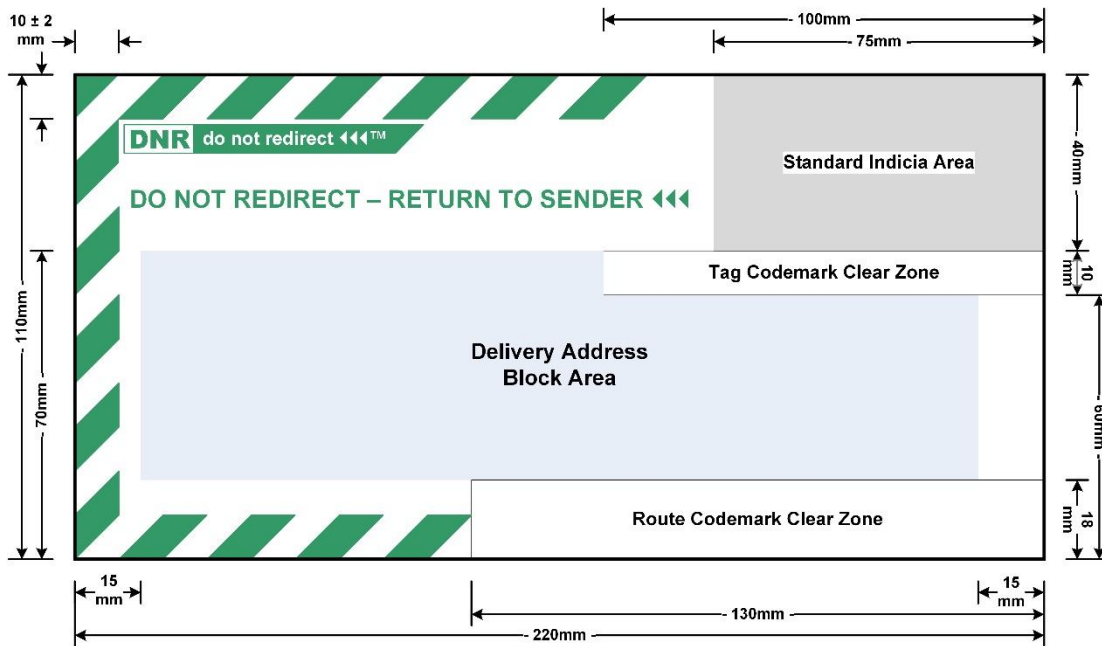
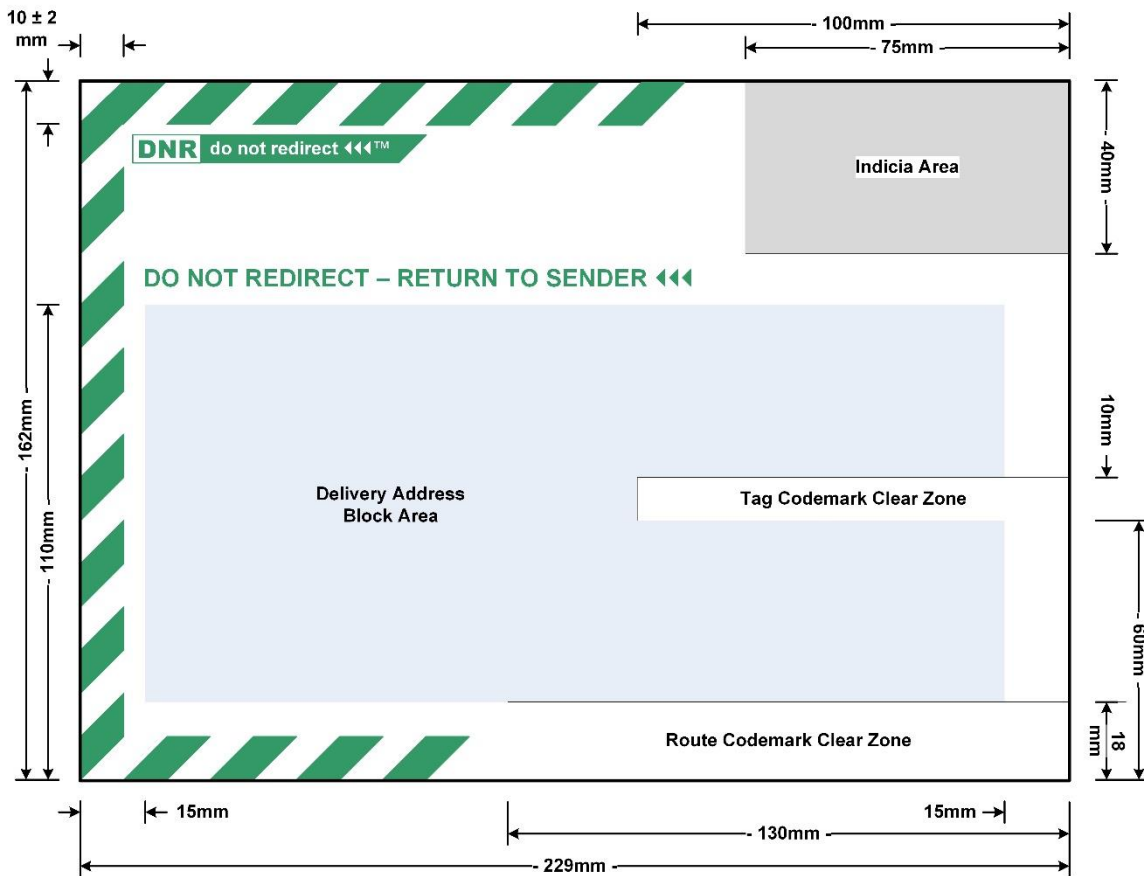
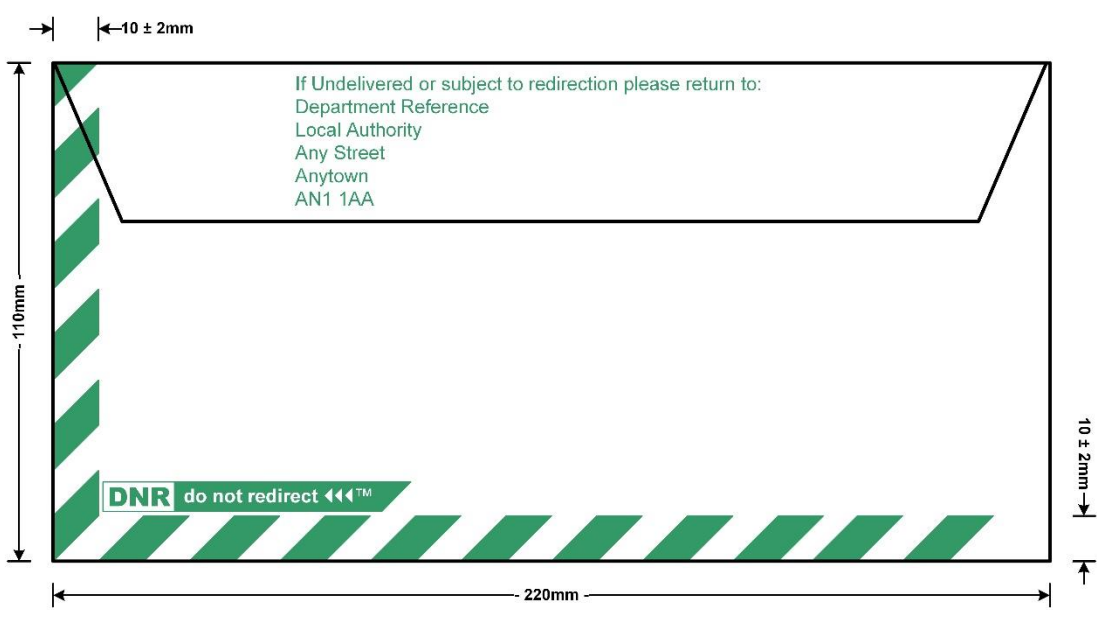
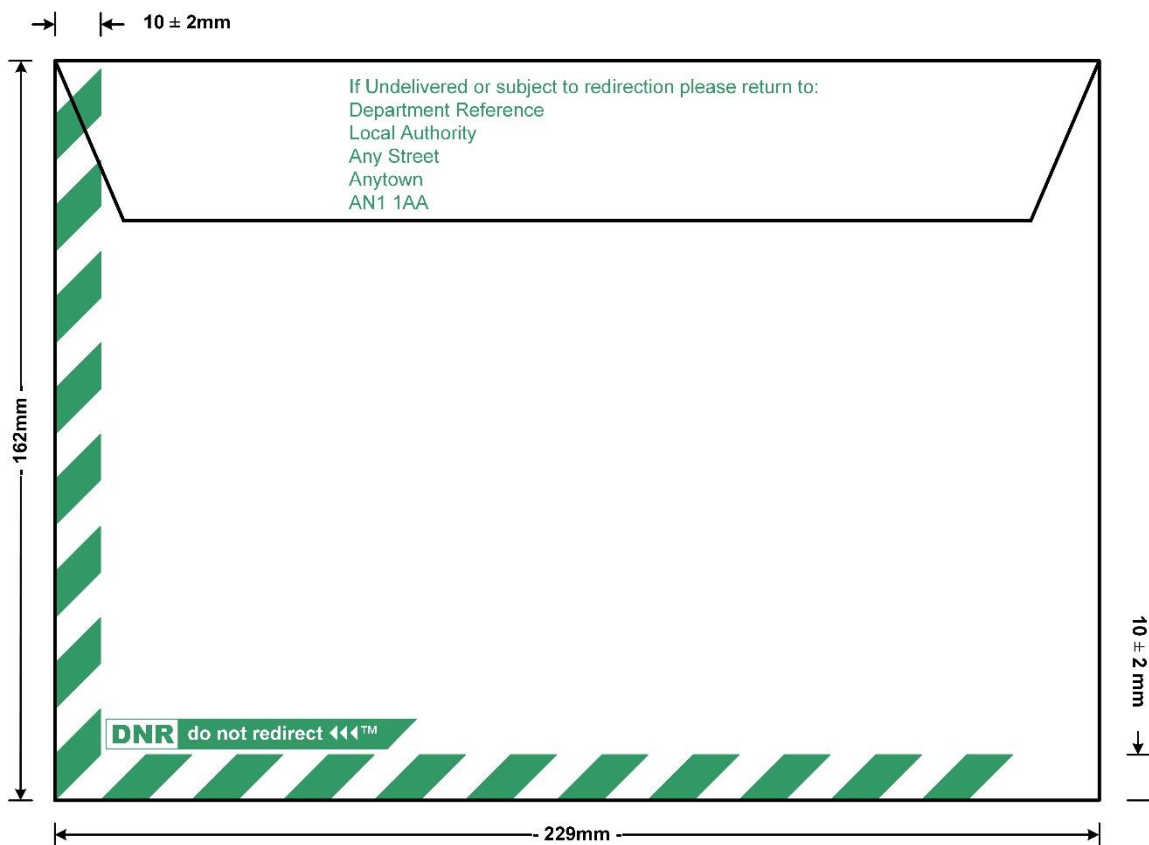

Figure 61 – DNR – DSA DL Letter front (not to scale)
Figure 62 - DNR - DSA C5 Letter front (not to scale)
Figure 63 - DNR - DL Letter back (not to scale)
Figure 64 – DNR – C5 Letter back (not to scale)
Prefix	'If undelivered or subject to Redirection, please return to:' See Figure 63 and Figure 64.
3.1 Specific attributes for Do Not Redirect include Chevrons, a trademark and text. These are defined in the following table and illustrated in Figure 61 to Figure 64.
Front Location	<ul style="list-style-type: none"> <li>DL Envelope - The mark must be in the top left corner and inset by 1mm from the top and left chevrons (see Figure 61).</li> <li>C5 Envelope - The mark must be in the top left corner and inset by 1mm from the bottom and left chevrons (see Figure 62).</li> </ul>
Back Location	The mark must be in the bottom left corner and inset by 1mm from the bottom and left chevrons (See Figure 63 & Figure 64)
Location	The text must be located beneath the DNR Mark, above the Delivery Address block and left justified as illustrated Figure 60 & Figure 61.